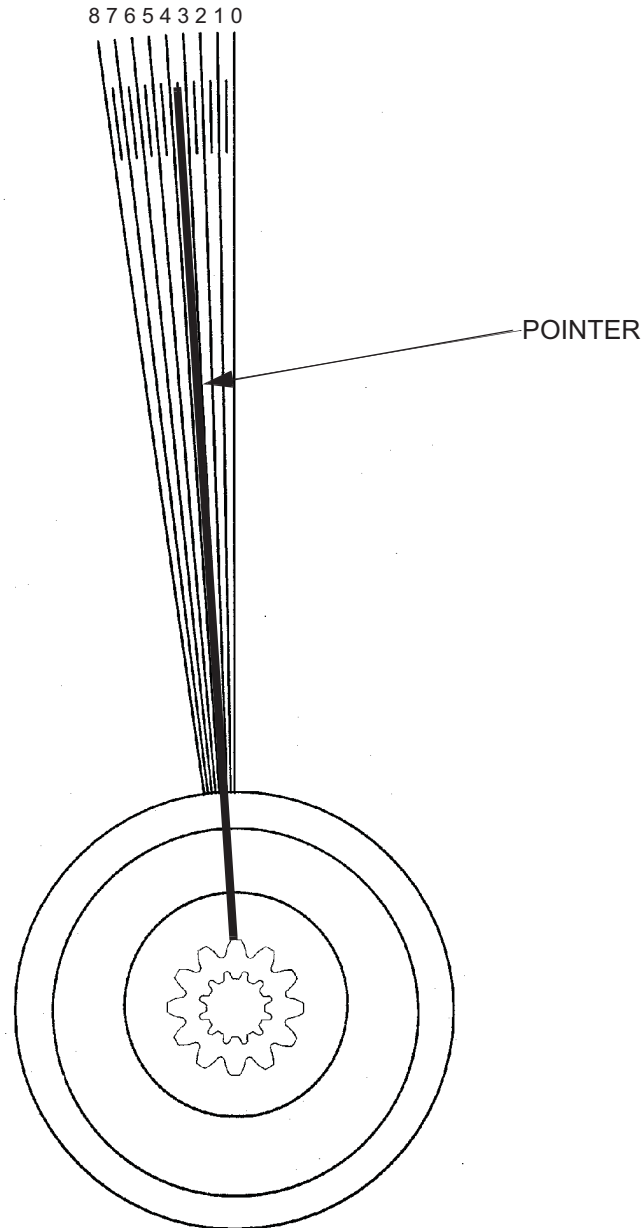

Figure 3B. Pointer Alignment
- F. Rotate the shaft counterclockwise until a firm stop is reached. Record the angular travel (backlash) to the nearest 0.25 degree increment measured with the pointer and template (see Figure 3B).
NOTE: The example shown in Figure 3B indicates a backlash of 3.25 degrees.